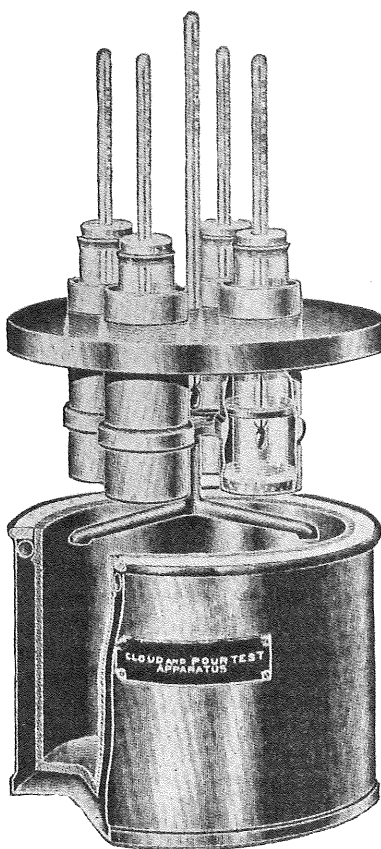

FIG. 8—APPARATUS FOR POUR TEST
**Apparatus**—(See Fig. 8)—The test jar shall be of clear glass, of cylindrical form, flat bottom, approximately 1¼" inside diameter and 4½ to 5" high. An ordinary 4 oz. oil sample bottle may be used if the test jar is not available.